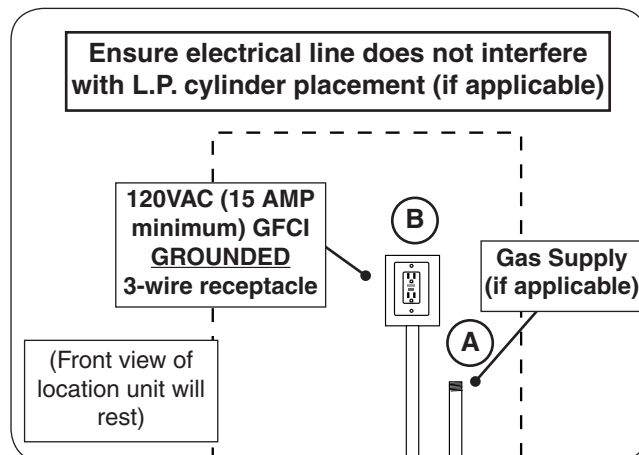

Fig. 18-1 Route gas and electrical (receptacle)
1. Route the gas supply into the area that the unit will rest over (see Fig. 18-1, A).
1. Wire the receptacle into the area that the unit will rest over (see Fig 18-1, B).